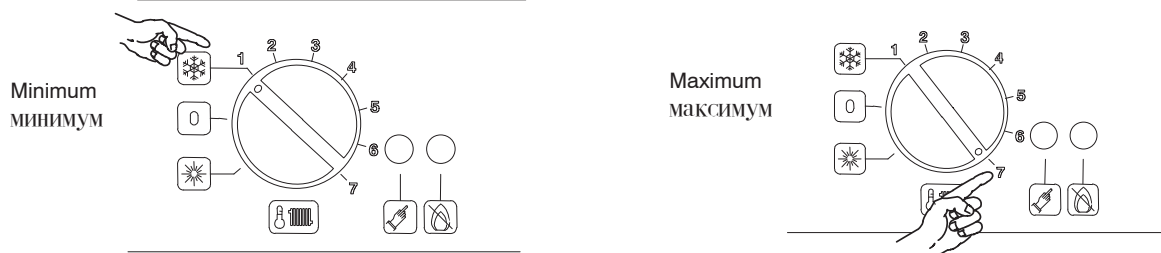

Fig.2.6
4. If d.h.w. supply only is required, position the function switch 7 as in Fig. 2.6. The appliance operation light 9 will flash every 2 seconds (operating boiler).
The output temperature of c.h. water is adjustable from a minimum of about 38°C to a maximum of about 80°C (Fig.2.6), by turning the knob (7).